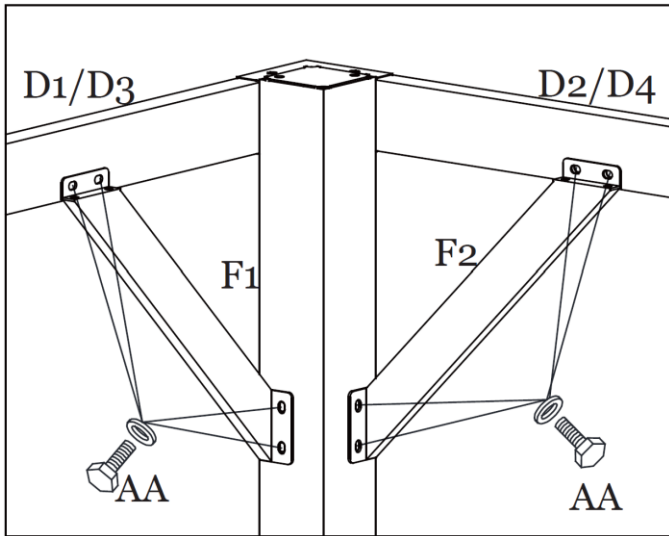

Figure 6-1
Step 6A: Attach Support Bars (F1) to Corner Posts (A) and Lintels (D1 and D3). Attach Support Bars (F2) to Corner Posts (A) and Lintels (D2 and D4). See Figure 6-1. **Tighten all Bolts.**